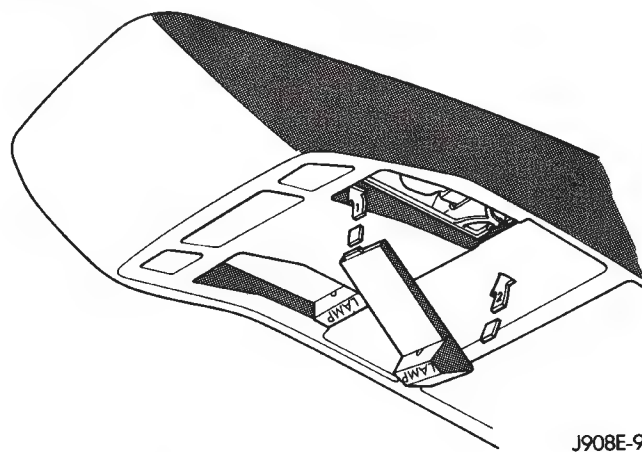

Fig. 4 Map Reading Lamp Lens Installation
- (1) Insert the tab at the front of the lamp lens into the slot in the lamp housing—shown by arrow 1 in Figure 4.
- (2) Force the rear of the lens upward until it is seated in the lamp housing—shown by arrow 2 in Figure 4.